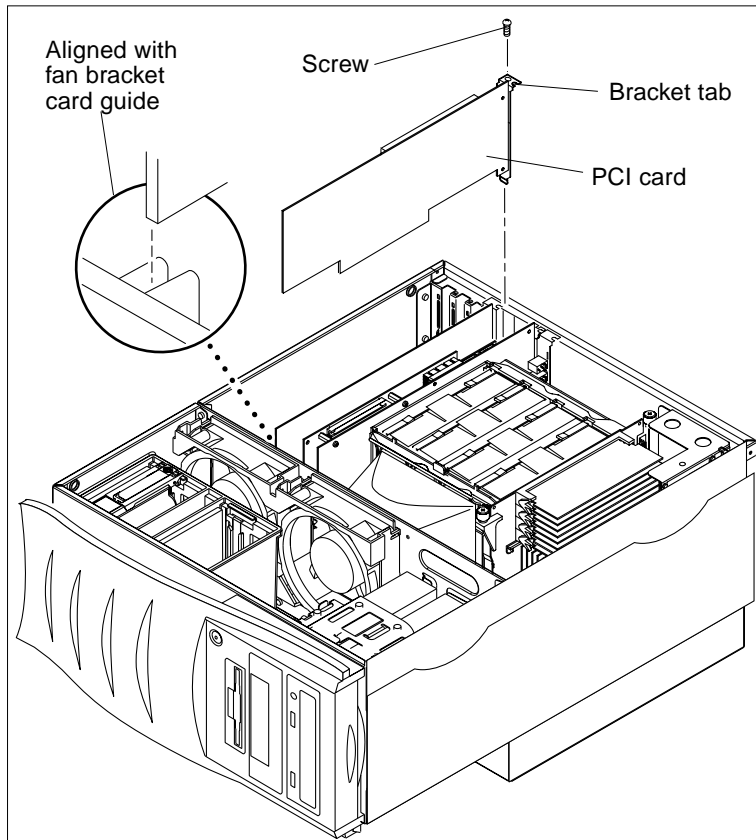

FIGURE 9-4 Removing and Replacing a PCI Card
4. Remove the PCI card as follows (FIGURE 9-4):
1. **Replace the PCI card as follows (FIGURE 9-4):**